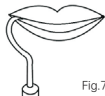

Fig.7
- 7.2.2. Hang the lip hook on a corner of the patient's mouth. (Fig.7)